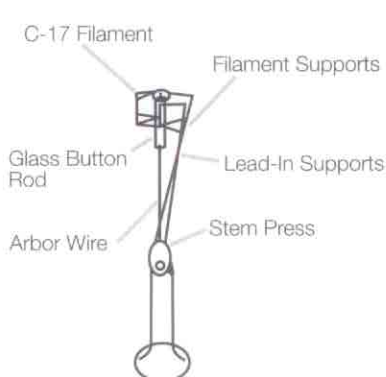

Figure 9. Typical Rough Service Lamp
- *Rough Service* lamps are designed primarily for "high amplitude/low frequency" shocks. The lamps are built to withstand bumping, banging and rough handling, often experienced on the ends of extension cords in garages and machine shops. Rough Service filaments are carefully held in place by many supports, as shown in Figure 9. Although the extra supports add to the cost of the lamp and reduce efficacy, rough service lamps survive under shock conditions.